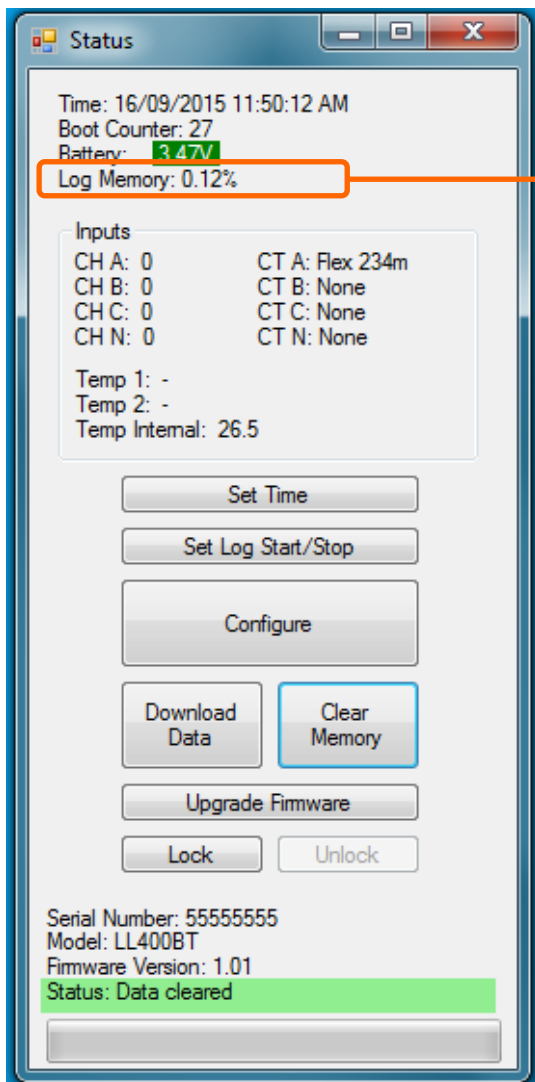

Figure 2.10.3
Step 2: Click on the 'Yes' button. Data is eliminated from the logger. A sequence of events will display on the 'status' screen as illustrated in figures 2.10.3 through to 2.10.4.